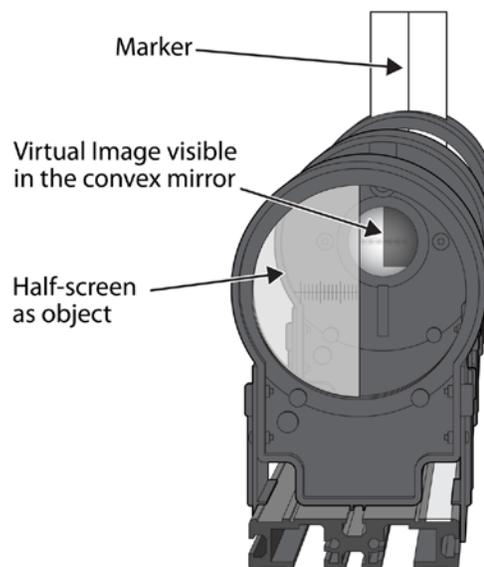

Figure 3
4. Move your head to the right of the half screen. Note that the edge of the screen in the image appears to the right of the line on the marker. When you move your head to the left of the half screen you should note that the edge in the image shifts to the left of the marker line. (See Figure 3.) This difference in relative positions is called parallax.